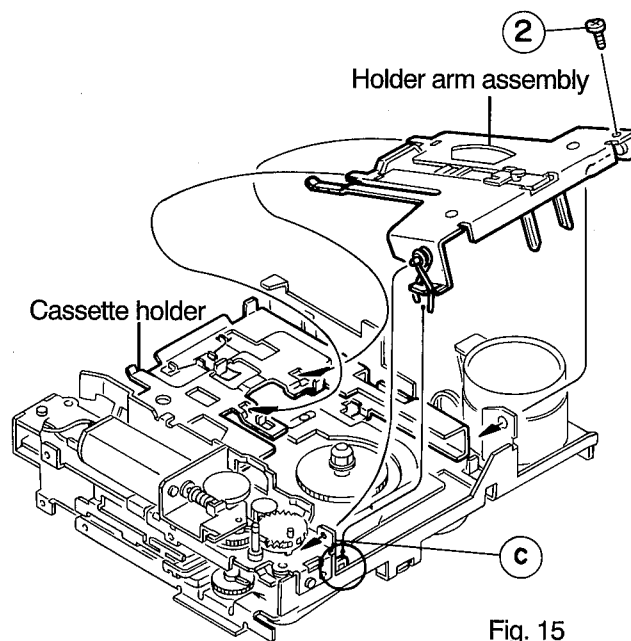

Fig. 15
5. While attaching the holder arm assembly to the cassette holder, insert the shaft of the holder arm assembly into the interlocking section © of the sub chassis assembly as shown in Fig. 15.
7. After the holder arm assembly is installed, secure it with the screw ②. (See Fig. 15)